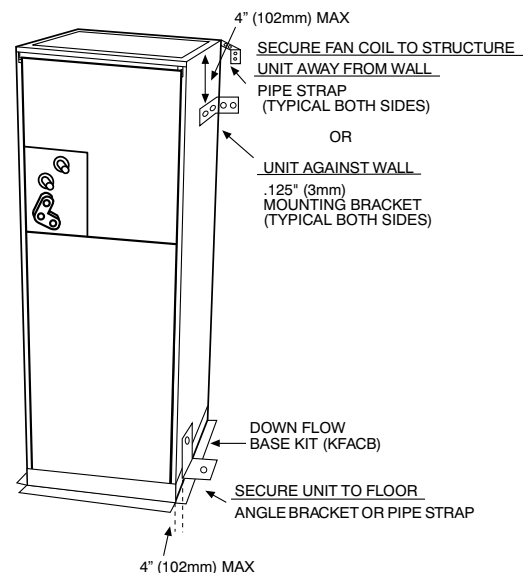

Fig. 9 – Mobile Home or Manufactured Housing Applications
- b. If fan coil is against wall, secure fan coil to wall stud using 1/8" (3 mm) thick right-angle brackets. Attach brackets to fan coil using no. 10 self-tapping screws and to wall stud using 5/16" lag screws (Fig. 9).